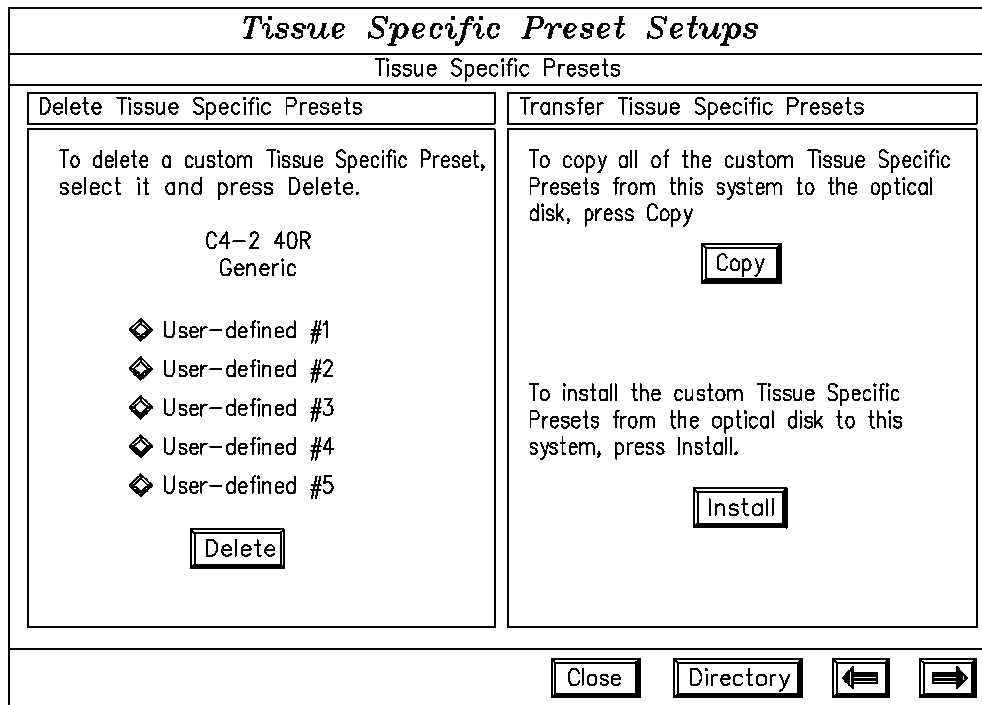

Figure 9-10. Formatting Optical Disk/Copying Tissue Specific Presets
5. Select Tissue Specific Presets. Press SELECT. The display appears as in **Figure 9-10**.